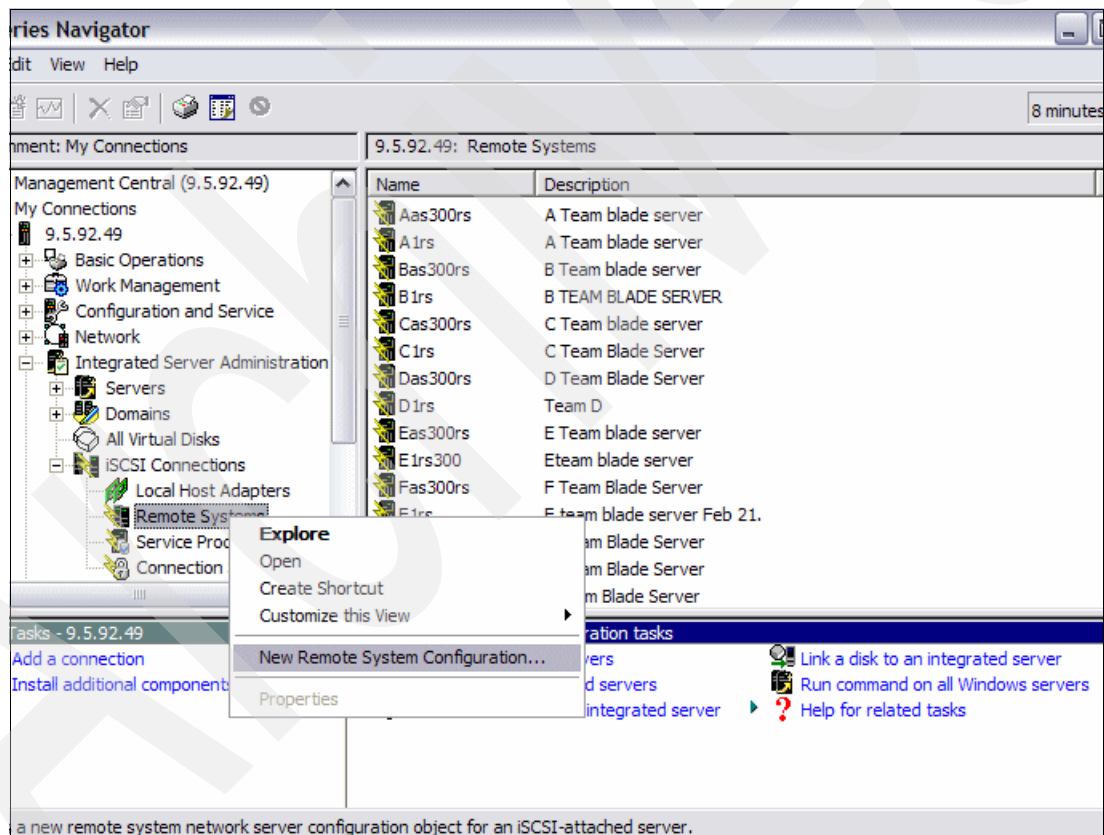

Figure 4-19 Select New Remote System Configuration
1. Expand the **Integrated Server Administration** → **iSCSI Connections** and highlight **Service Processor**. Figure 4-19 on page 66 shows this.
Remote system configuration object is a type of *RMTSYS. The remote system describes each initiator machine. There is one of these objects per xSeries server, however, unlike the service processor object, which is shared by all the blades, there is one Remote System object for each Blade server to be installed. To create a remote system object (Figure 4-19):